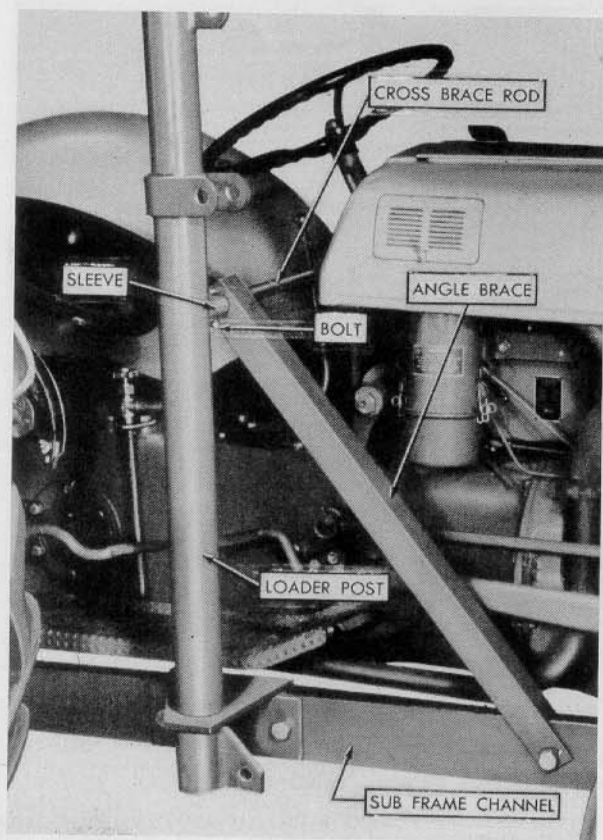

Figure 13
1. Bolt the right hand loader post to the sub-frame channel as shown in Figure 13. Use the $\frac{5}{8}$ " x $1\frac{5}{8}$ " bolts with washers and nuts. Tighten the nuts finger tight.
- a. Insert the end of the cross brace rod through the hole in the upper end of the angle brace and into the sleeve welded to the loader post. See Figure 13.
- b. Align the hole in the cross brace rod with the hole in the sleeve and insert $\frac{5}{16}$ " x 2" bolt. See Figure 13.
- d. Bolt the lower end of the angle brace to the sub-frame as shown in Figure 13. Use $\frac{5}{8}$ " x $1\frac{3}{8}$ " bolt with lock washer and nut. Tighten the nut finger tight.